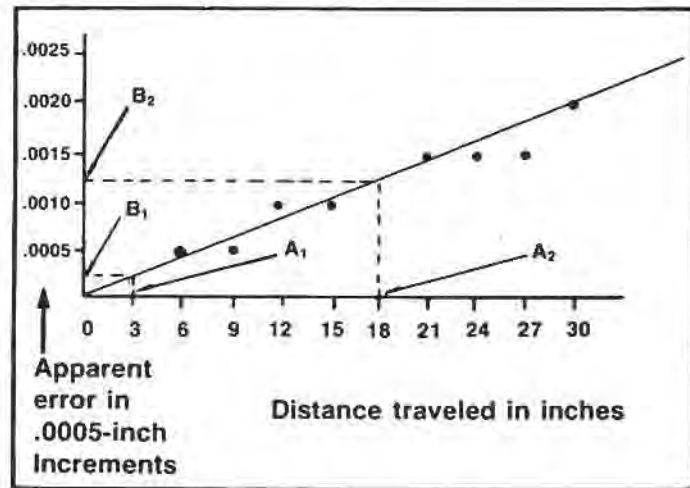

Figure 17a. Error Graph (Example 1).
- 1) On the error plot, draw a vertical line "A1" at one of the first distance measurements (Figure 17a below).